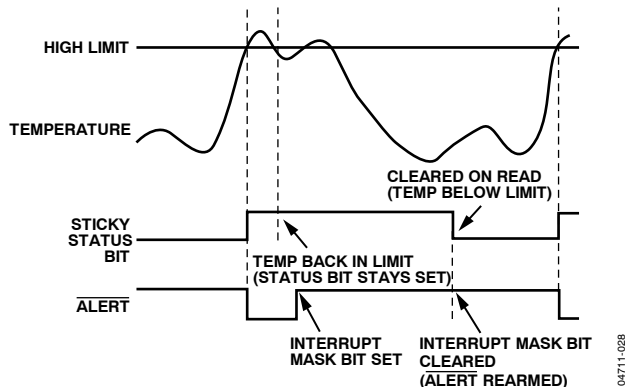

Figure 29. How Masking the Interrupt Source Affects ALERT Output
7. Periodically poll the status registers. If the interrupt status bit has cleared, reset the corresponding interrupt mask bit to 0. This causes the ALERT output and status bits to behave as shown in Figure 29.